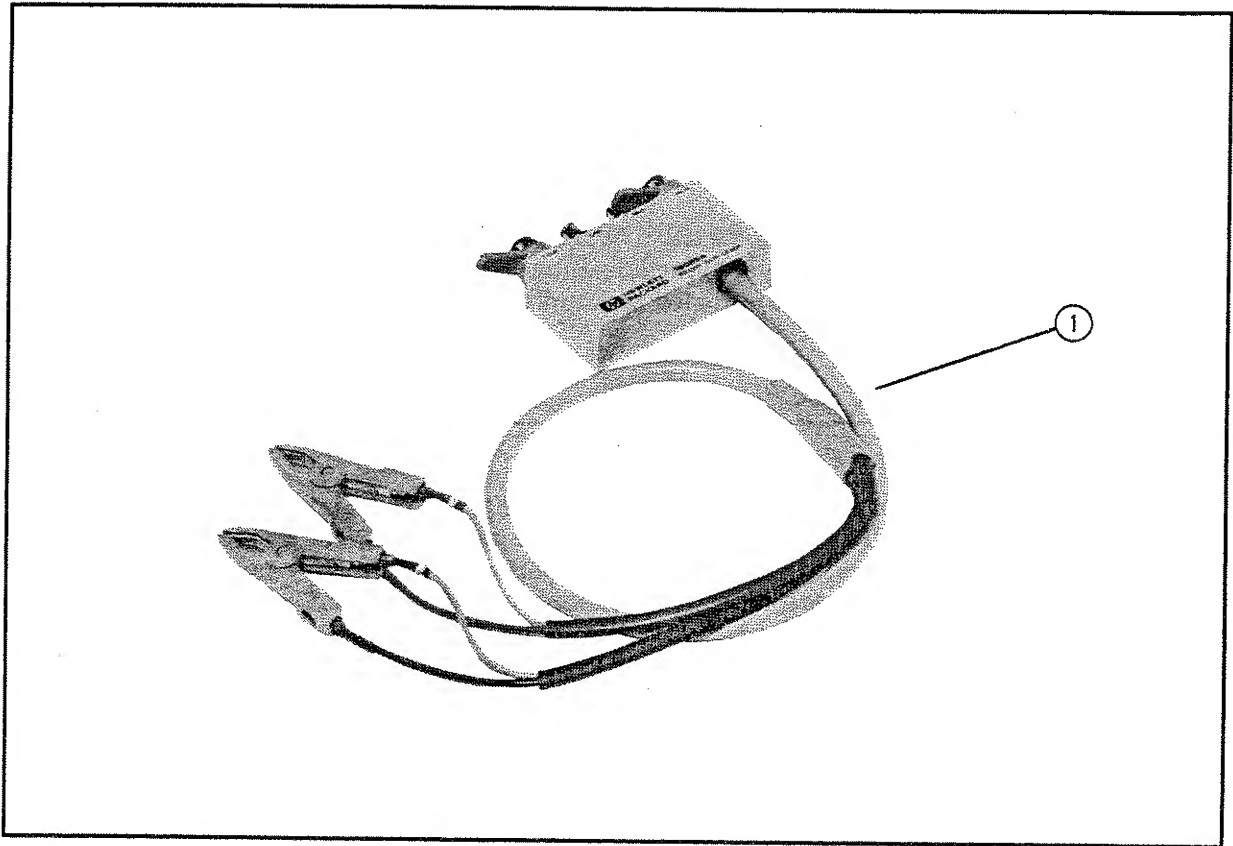
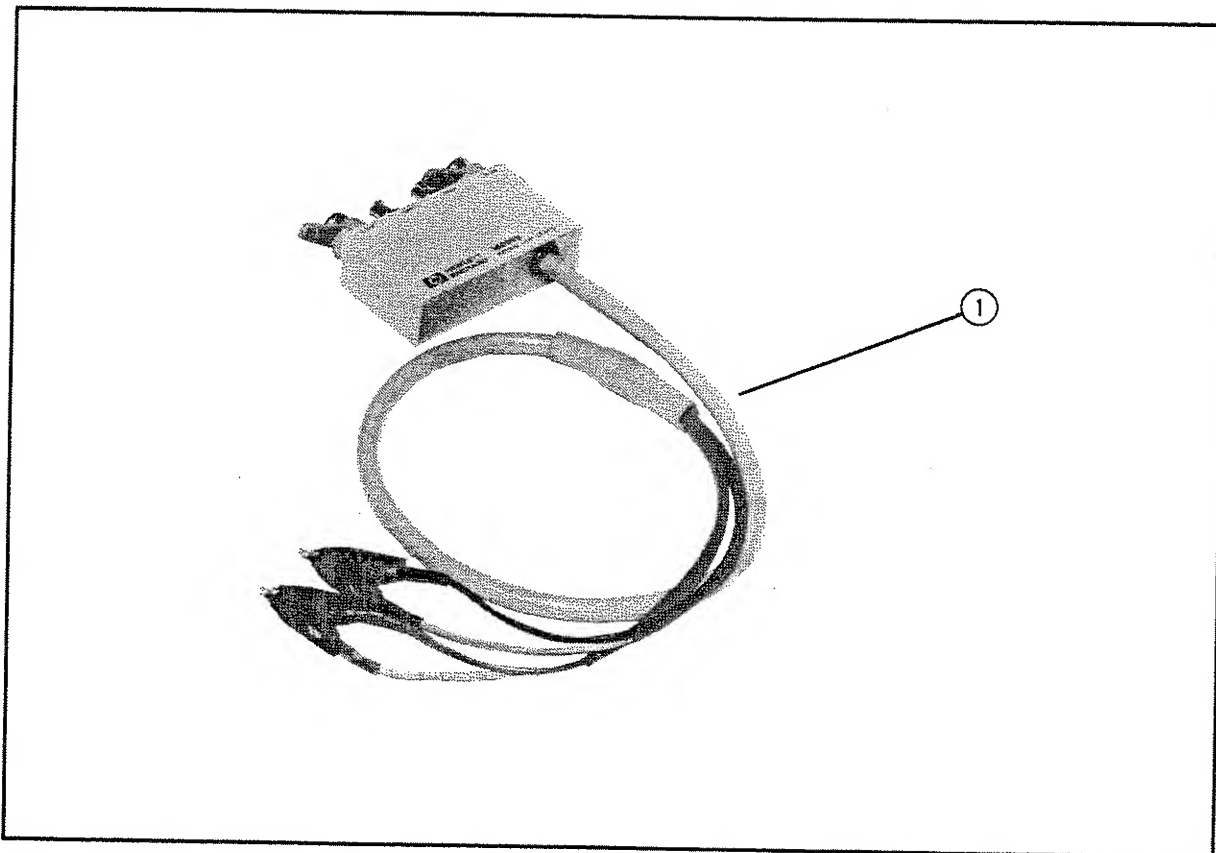
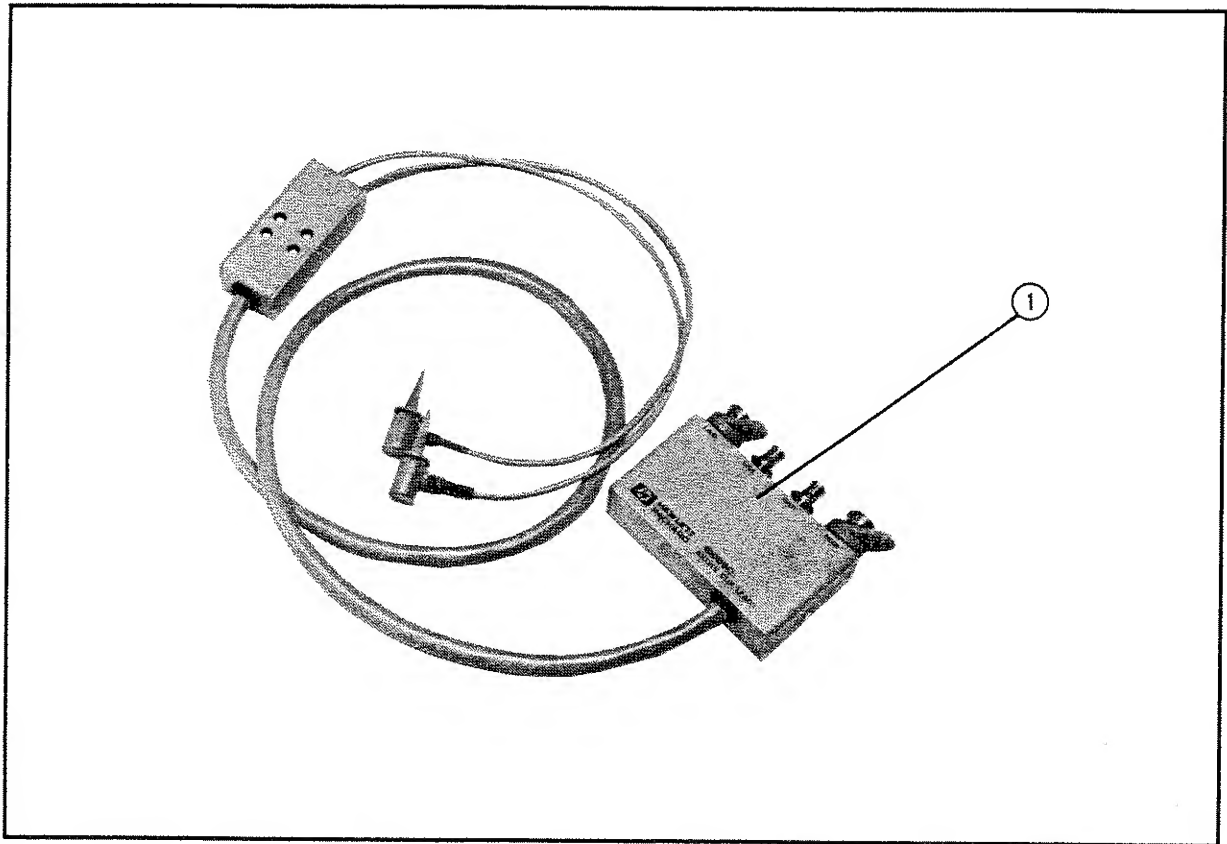
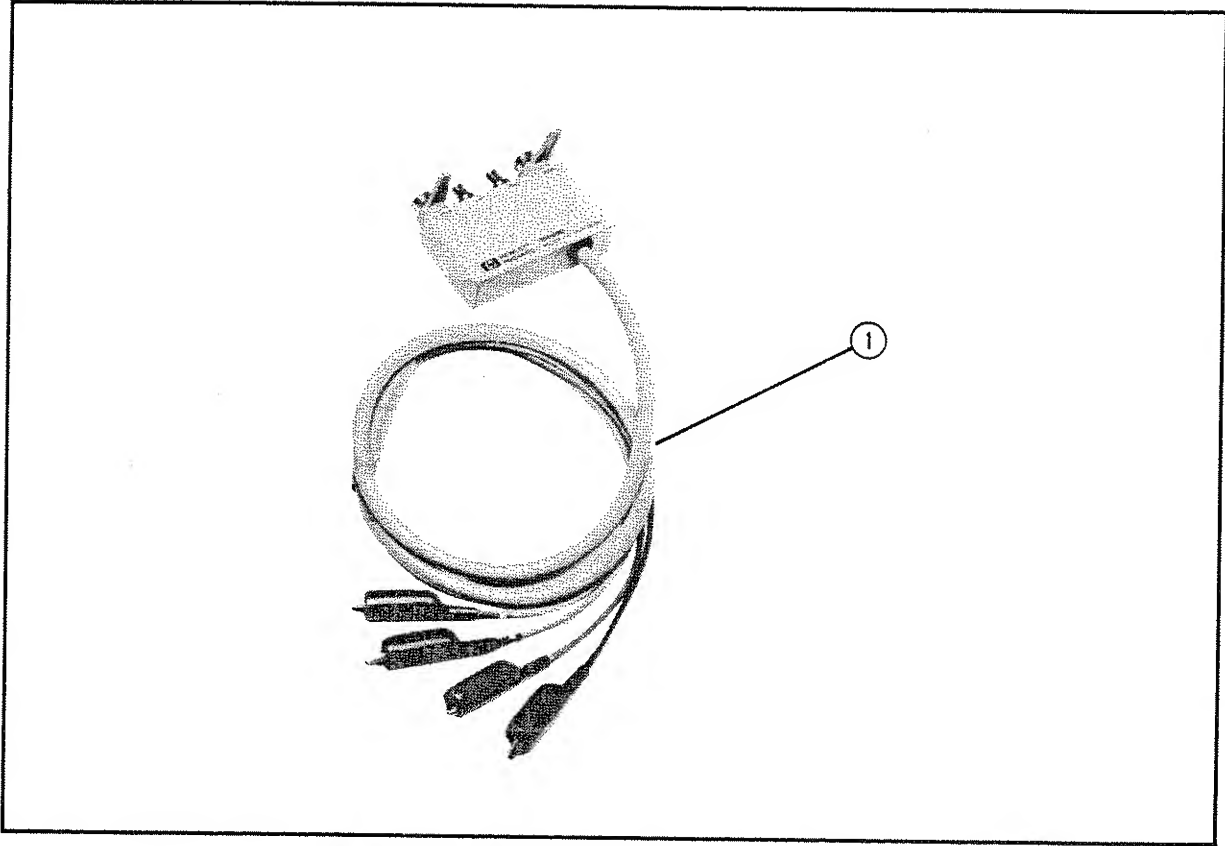

Figure 2-1. HP 16089A Product Overview
Figure 2-2. HP 16089B Product Overview
Figure 2-3. HP 16089C Product Overview
Figure 2-4. HP 16089D Product Overview
2. Verify that the shipping container contains everything shown in Figure 2-1, Figure 2-2, Figure 2-3, and Figure 2-4 and listed in Table 2-1, Table 2-2, Table 2-3, and Table 2-4.
¹ Operation and Service Manual is not shown in Figure 2-1.
¹ Operation and Service Manual is not shown in Figure 2-2.
¹ Operation and Service Manual is not shown in Figure 2-3.
¹ Operation and Service Manual is not shown in Figure 2-4.